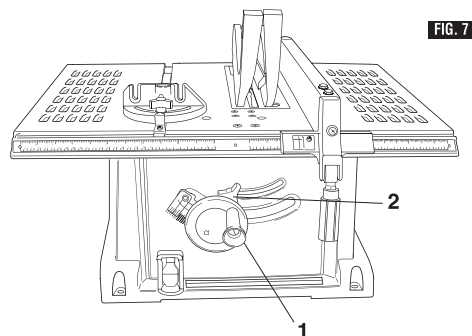

FIG. 7
1. Raise the blade to the maximum height by turning the control wheel **1** counterclockwise (Fig. 7).
2. Loosen the blade lock knob **2**. Push in the blade elevation/tilting control wheel **1** and rotate clockwise as far as possible (Fig. 7).
2. Loosen the blade lock knob **2**. Push in the blade elevation/tilting control wheel **1** and rotate counterclockwise as far as possible (Fig. 7).